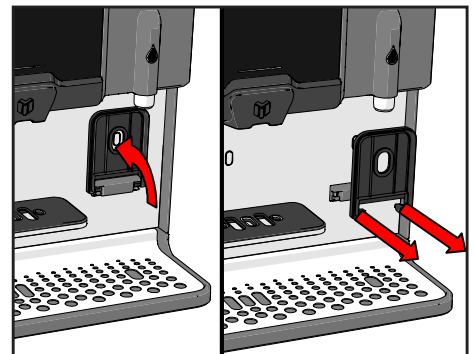
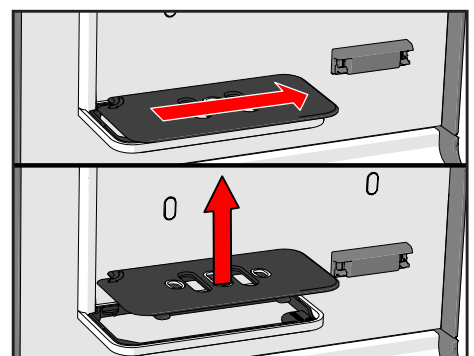

Figure 30.
Figure 31.
19. Detach the cup trays (see Figure 30 and Figure 31). Clean with lukewarm water and a brush.